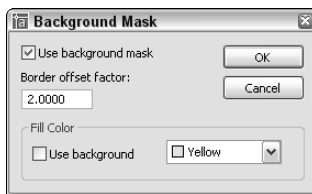

Figure 13-19: Use the Background Mask dialog box to create a background around your text so that no other object obscures the text.
- ♦ **Background Mask:** Opens the new Background Mask dialog box, shown in Figure 13-19. This new feature creates a background around your text that covers other objects so that you can easily read the text. Check the Use Background Mask checkbox. Specify a border offset factor to create a margin around the text. The default margin setting of 1 does not create any margin. Then check the Background checkbox to use the color of your drawing screen or choose another color from the drop-down list. Click OK.